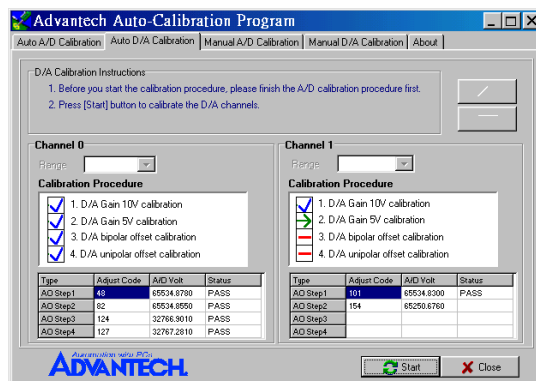

Figure 5-13: Calibrating D/A Channel 1
Step 11: D/A channel 1 calibration is enabled (Fig. 5-13)